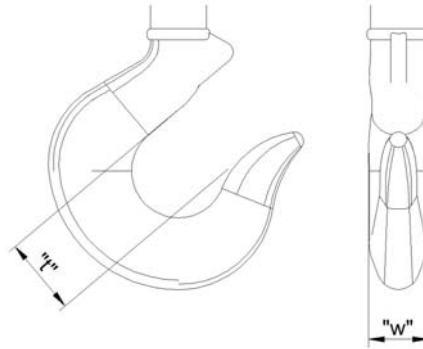

Figure 58 – Hook Throat Admittance
- Check the hook throat admittance (see Figure 58). Replace the complete bottom block where "t" max. has been exceeded.